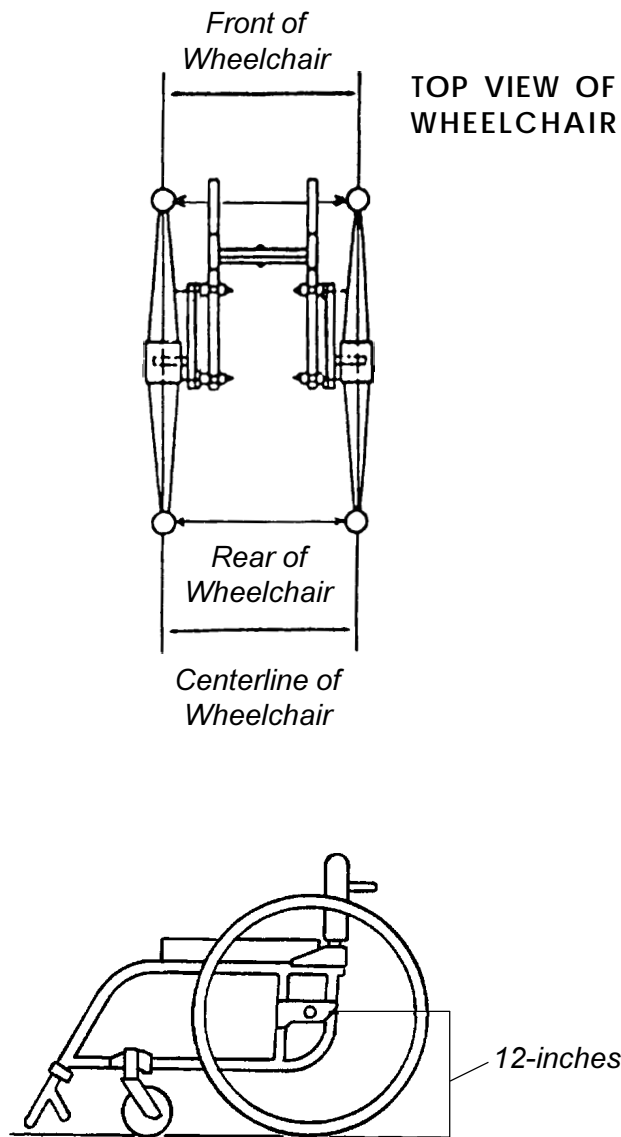
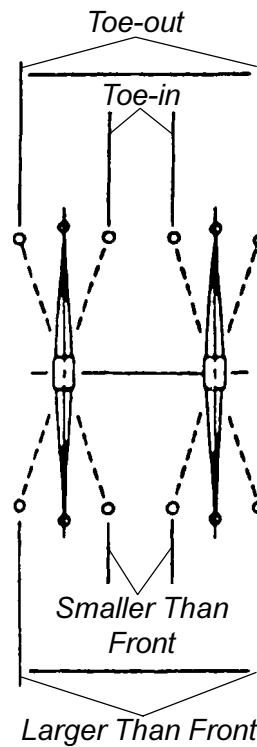

FIGURE 8 - MEASURING FRONT AND REAR OF REAR WHEELS
FIGURE 9 - TOE-IN/TOE-OUT CONDITION
TOE-IN/TOE-OUT ALIGNMENT (FIGURES 8 AND 9)
- Measure the distance between the center lines at the rear and front of the rear wheels at approximately 12-inches from the ground/floor (**FIGURE 8**).
- Determine the difference between the two (2) measurements. If the **difference** between the **two (2) measurements** is **GREATER** than 1/4-inch ($0 \pm 1/8$ -inch for maximum rollability), one (1) of two (2) conditions exists:
- If the **back centerline measurement** of the rear wheels is **SMALLER** than the **front centerline measurement** of the rear wheels, a **TOE-OUT** condition exists (**FIGURE 9**).
- If the **back centerline measurement** of the rear wheels is **LARGER** than the **front centerline measurement** of the rear wheels, a **TOE-IN** condition exists (**FIGURE 9**).